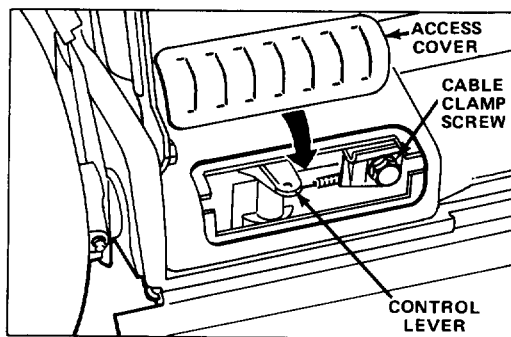

Figure 29
2. Remove access cover from rear of mower housing (Fig. 29).
4. **ADJUSTMENT** (Fig. 29) — Loosen cable clamp screw until cable conduit slides. Push shift lever toward cable clamp screw. Push cable to the right to remove slack and tighten clamp screw.